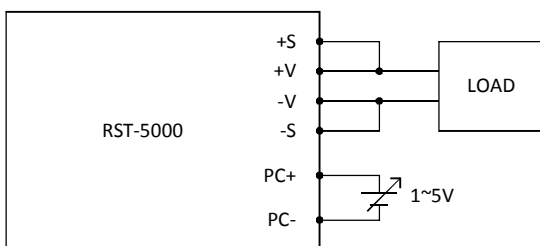

Fig 4.1
(2)Using external voltage source between PC+ and PC- on CN313 or CN314 as shown in Fig 4.1.